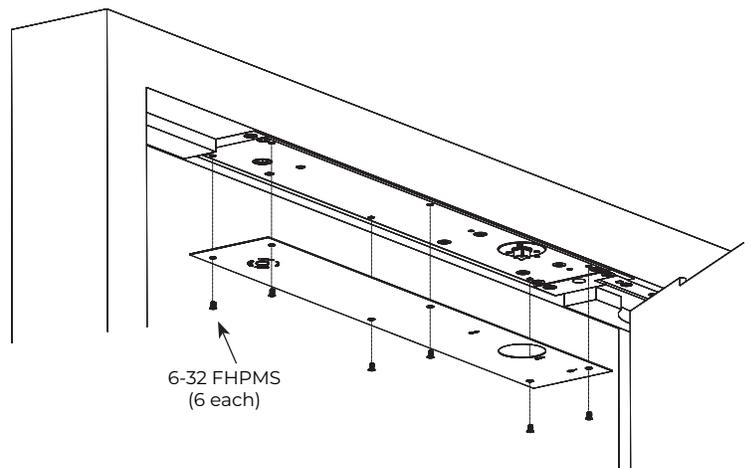

Figure 14
1. Install cover plate to closer mounting plate with six (6) 6-32 x FHPMS mounting screws provided. (Figure 14)